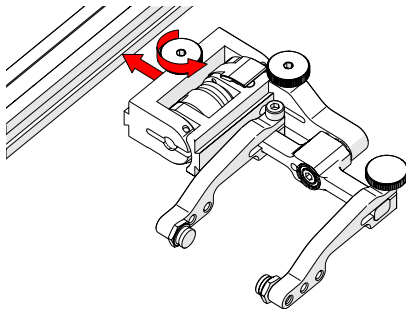

Fig. 43 - Attach to frame bar
1. Rotate the probe holder adjustment knob and attach the probe holder to a frame bar (Fig. 43).